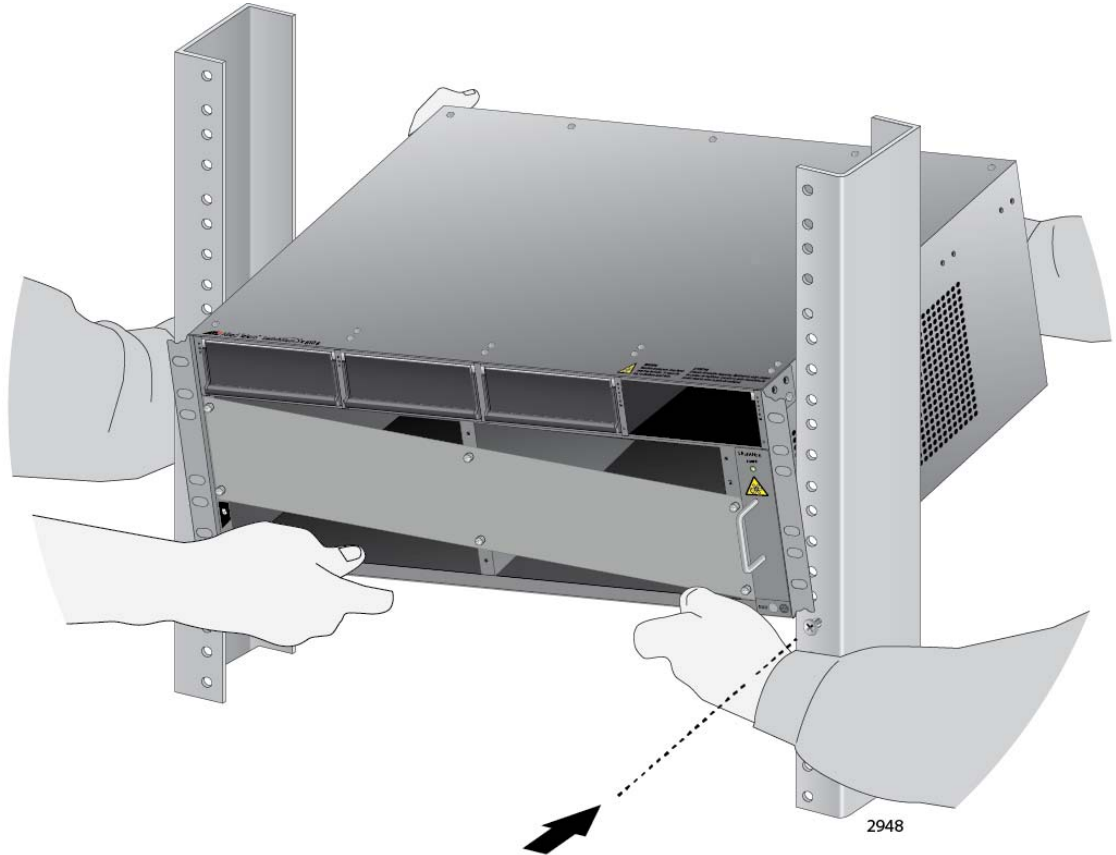

Figure 33. Lifting the AT-SBx8106 Chassis into the Equipment Rack
2. Lift the AT-SBx8106 Chassis into the equipment rack and set the bottom of the equipment rack brackets firmly on the two equipment rack screws you installed in “Preparing the Equipment Rack” on page 83, as shown in Figure 33.